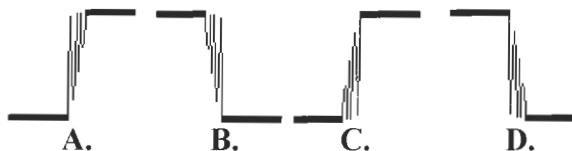

Figure L37-4
- An unclean input has bounce as shown in Figure L37-4. Such a bounce is too fast to be noticed on inexpensive oscilloscopes. It would be impossible to see on Winscope. But you see the results of the bounce as the 4017 counts more than one step in each push of the plunger.